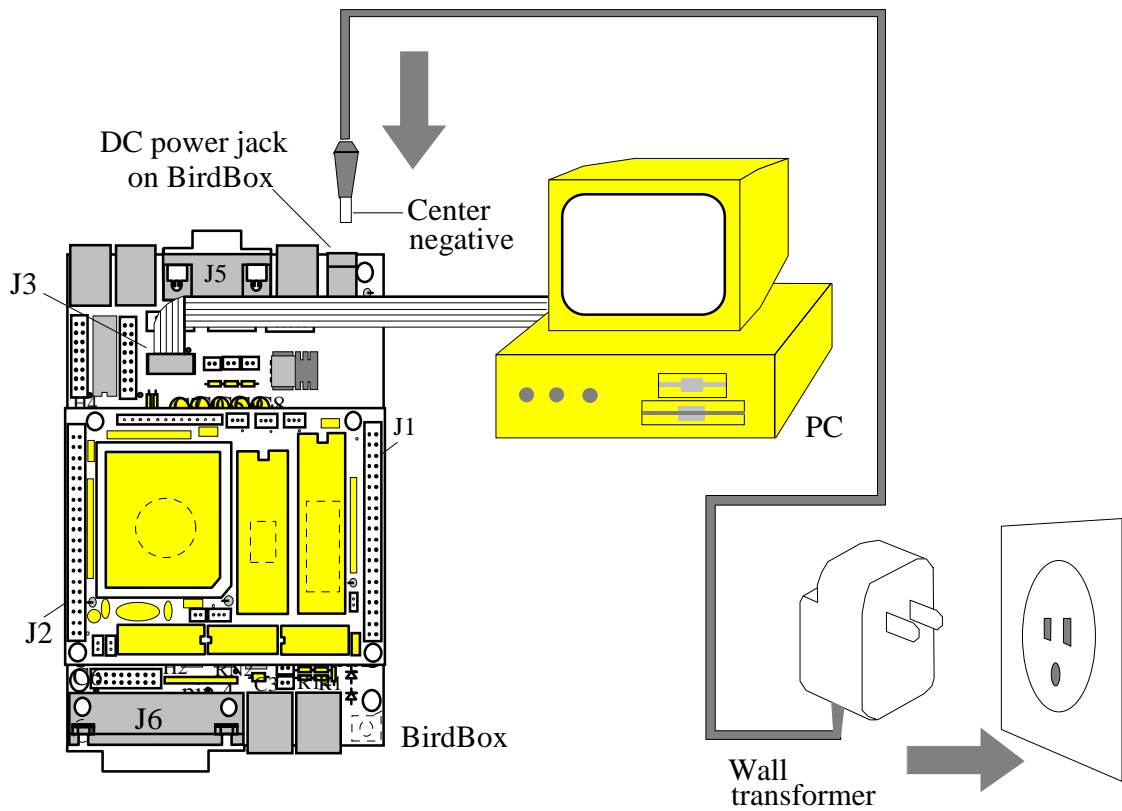

Fig. 2.3. Connection of center negative wall transformer to BirdBox
3. Connect the output of the center negative wall transformer (+9V DC) to the BirdBox DC power jack J8 (Fig. 2.3).